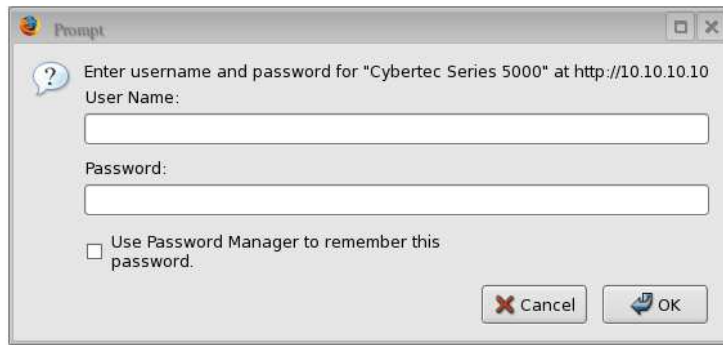

Figure 13: Web login box
- A login box similar to Figure 13 will pop up. If the box fails to display, re-check the cable connections to the unit and the IP address settings of the PC.